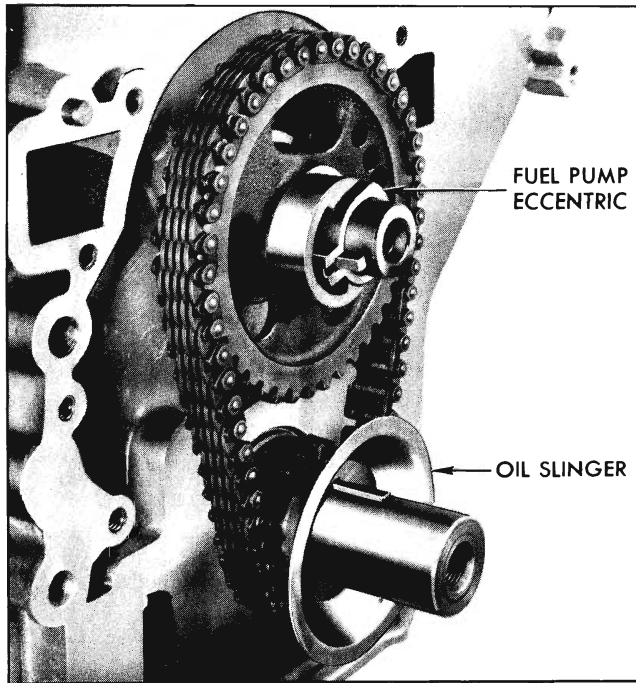

Fig. 6-103 Fuel Pump Eccentric and Oil Slinger Location
5. Slide fuel pump eccentric on camshaft and woodruff key with oil groove forward (Fig. 6-103).
3. Replace fuel pump eccentric, woodruff key with oil groove forward and distributor drive gear, (Fig. 6-103).